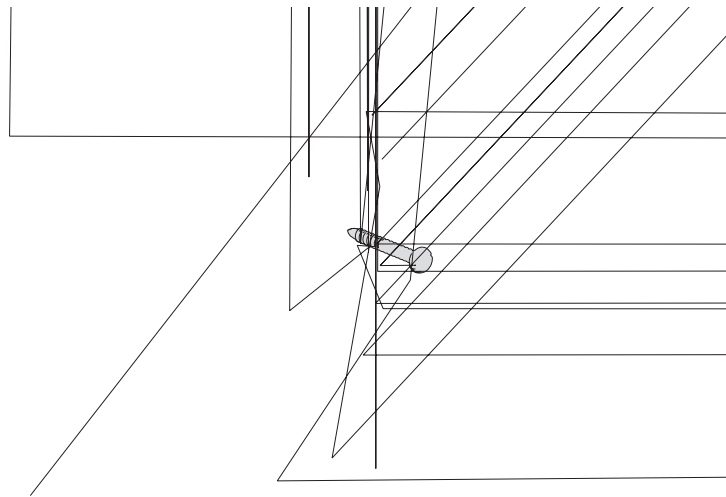

Figure 3
- Reposition wallplate, pulling wires through large opening. Insert provided mounting screws into wall anchor and tighten. See Figure 3.